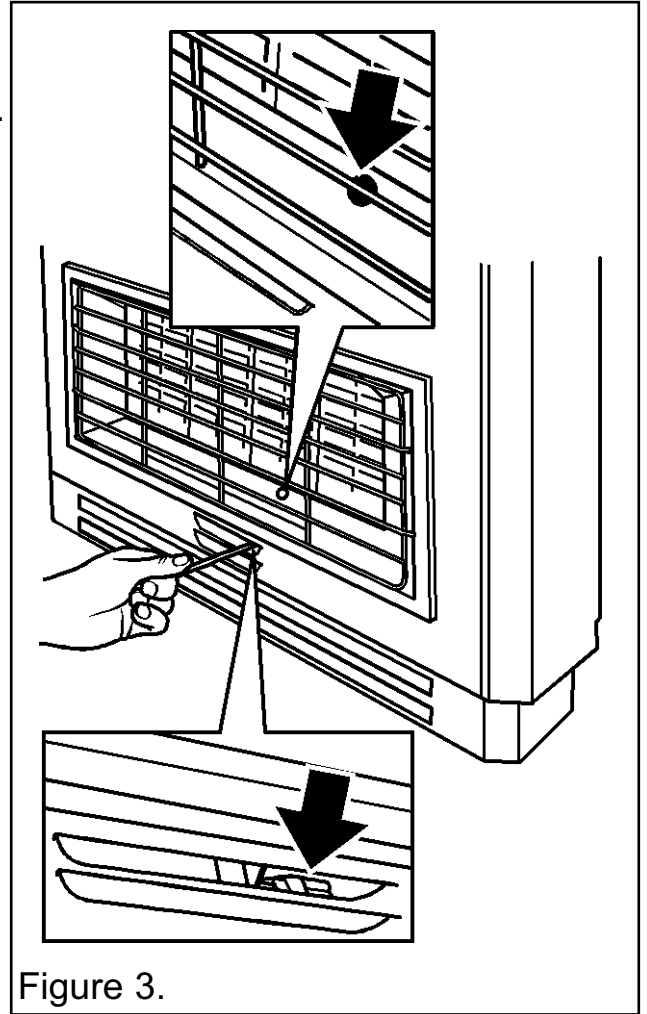

Figure 3.
1. Slide the control button to the ignition / low (↵ L) position. In this position, the electronic ignition system should cause a series of sparks that should light the pilot. The pilot flame can be seen through a hole immediately in front of the centre radiants (See the upper section of figure 3). Within four seconds of the pilot igniting, the two centre radiants should light.
(See figure 3).
depressed, light the pilot by inserting a long match or taper into the opening shown in figure 3 (The upper slot of the two).